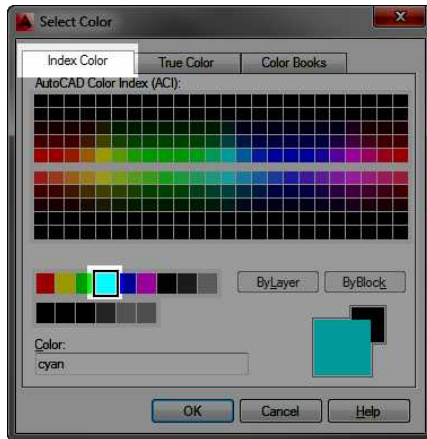

FIGURE 6.8: The Index Color tab in the Select Color dialog box
4. To open the Select Color dialog box shown in Figure 6.8, click the word *white* in the Color column for the A-WALL row.
As you saw on the Index Color tab of the Select Color dialog box (previously shown in Figure 6.8), AutoCAD has three groupings of colors: a large array of swatches in the top half and two rows of swatches below. Moving the cursor over a swatch displays its AutoCAD number below the array as well as its Red, Green, Blue (RGB) values. The RGB values indicate the amount of each color, a number from 0 (none) to 255 (all), which is mixed with the other two base colors to make the selected color. Click a swatch to assign it to the layer that has been selected in the Layer Properties Manager.